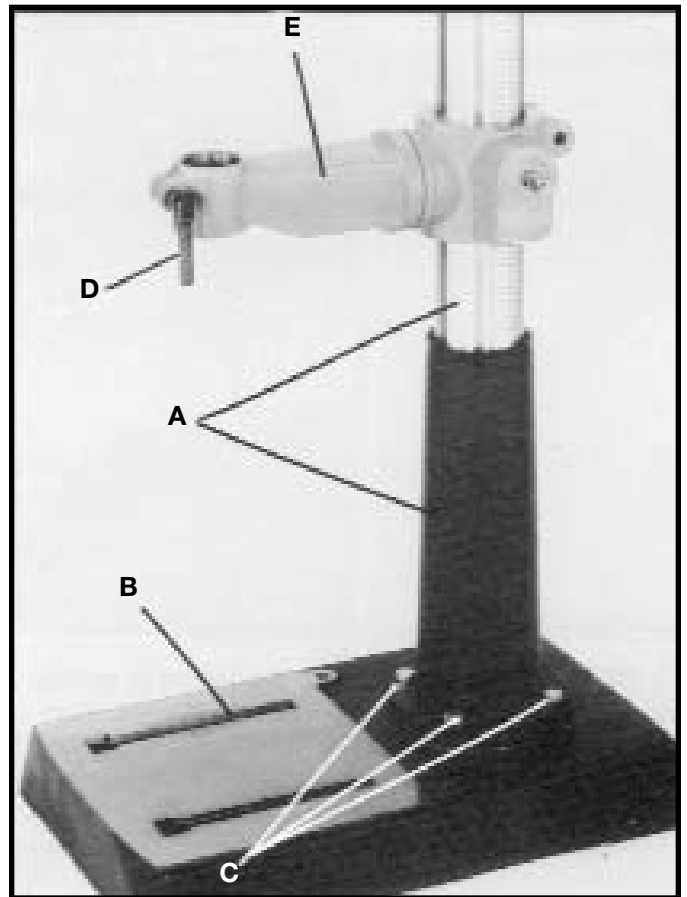
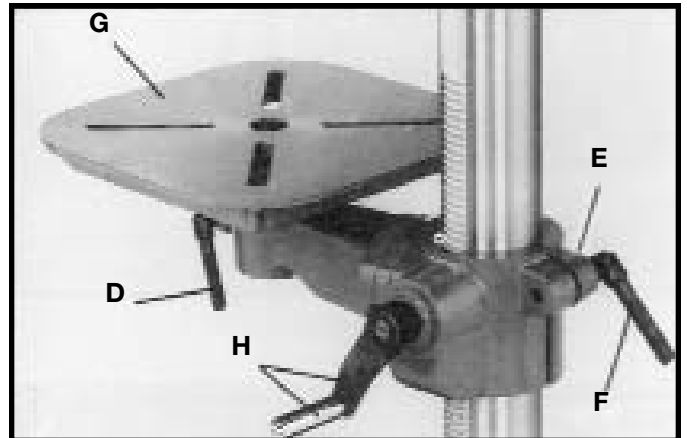
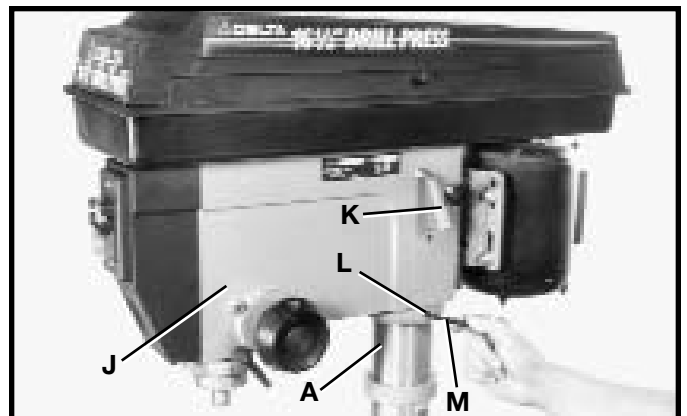

Fig. 4
Fig. 5
Fig. 6
1. Assemble column (A) Fig. 4, to base (B) using four 1-3/4" long screws (C), three of which are shown. Loosely thread locking lever (D) into table mounting bracket (E), as shown. Loosely thread remaining locking lever (F) Fig. 5, into split of table mounting bracket (E).
2. Insert table (G) Fig. 5, into table mounting bracket (E) and tighten lever (D) to lock table in position. Tighten locking lever (F) Fig. 5, to lock table raising mechanism on the column.
3. Assemble table raising and lowering handle (H) Fig. 5, to table mounting bracket (E).
4. Carefully position drill press head (J) Fig. 6, onto column (A) as far as it will go. Align drill press head (J) Fig. 6, and table (G) Fig. 5, with the base of the drill press, which was assembled in **STEP 1**, and tighten locking lever (K) and set screw (L) with hex wrench (M) supplied.